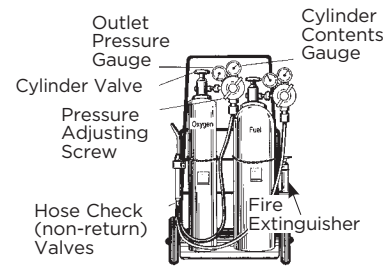

Figure 41-16: Buggy Equipped with a Fire Extinguisher
- Use oxygen and acetylene cylinders in a proper buggy equipped with a fire extinguisher (Figure 41-16). Secure cylinders upright.